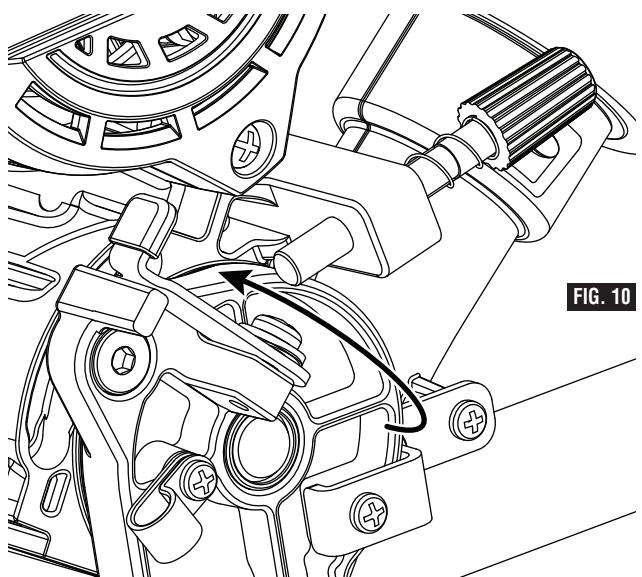

FIG. 10
2. Swing the depth stop plate to the front (see figure 10).
3. Grip the main handle (item 3, page 8) and push down the saw head while watching the depth stop screw contact the top surface of the depth stop plate.